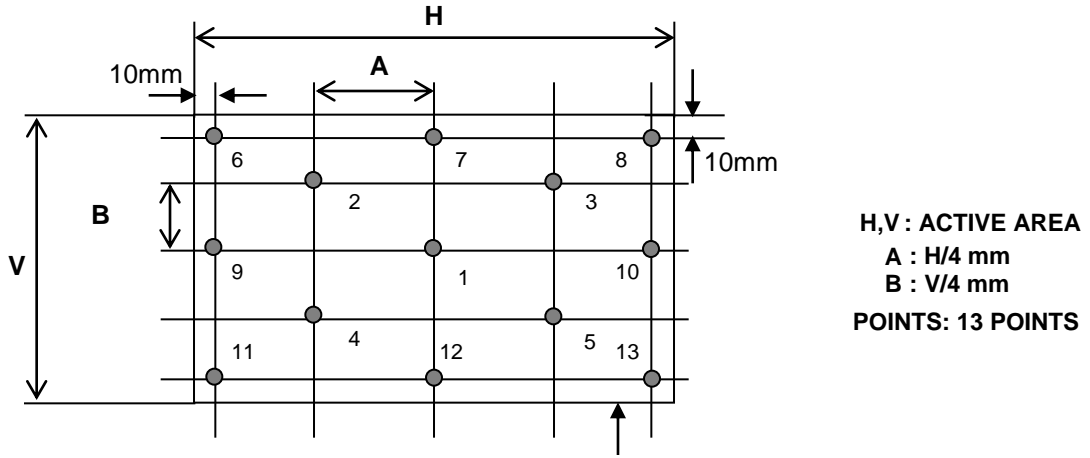

FIG. 3 Response Time
-). For additional information see FIG 3.